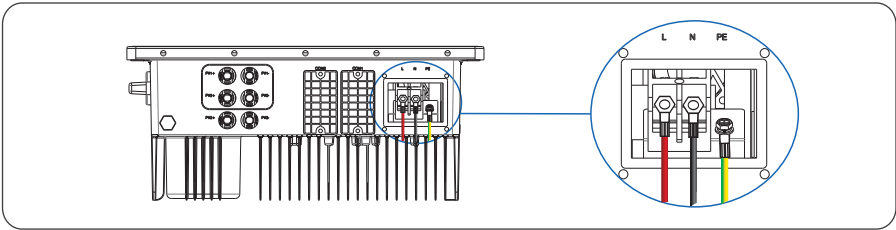
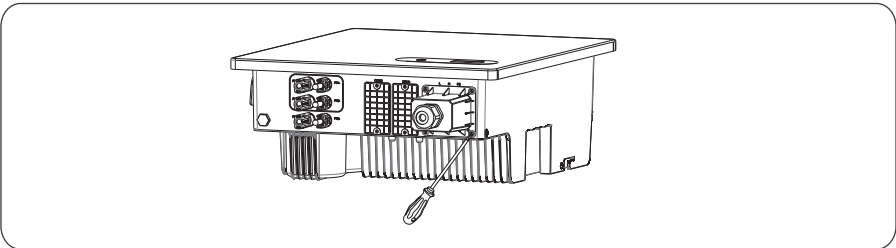

Figure 5.8 Connecting AC cable
Figure 5.9 Connecting AC Connector
- Connectors of PV Strings: Positive and negative DC input connectors are used, as shown in Figure 5.8 and Figure 5.9.